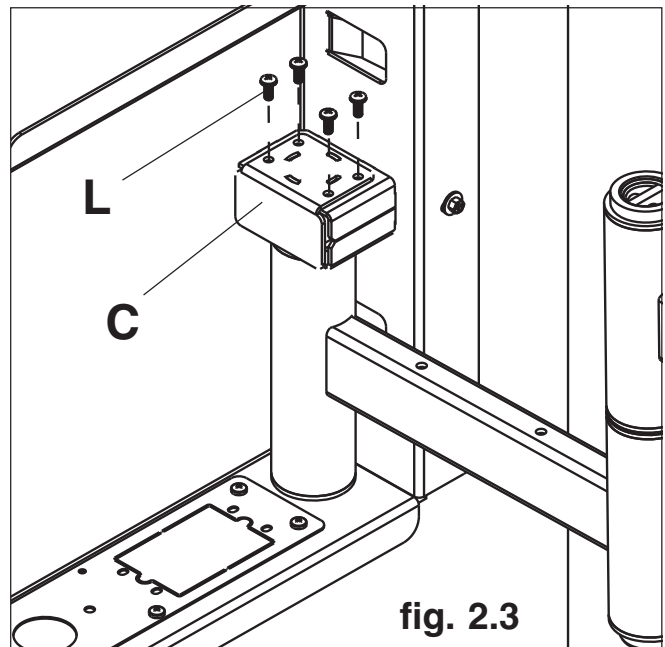

fig. 2.3
Secure arm axle to in-wall box using four M5 x 12 mm phillips screws (L) as shown in figure 2.3.